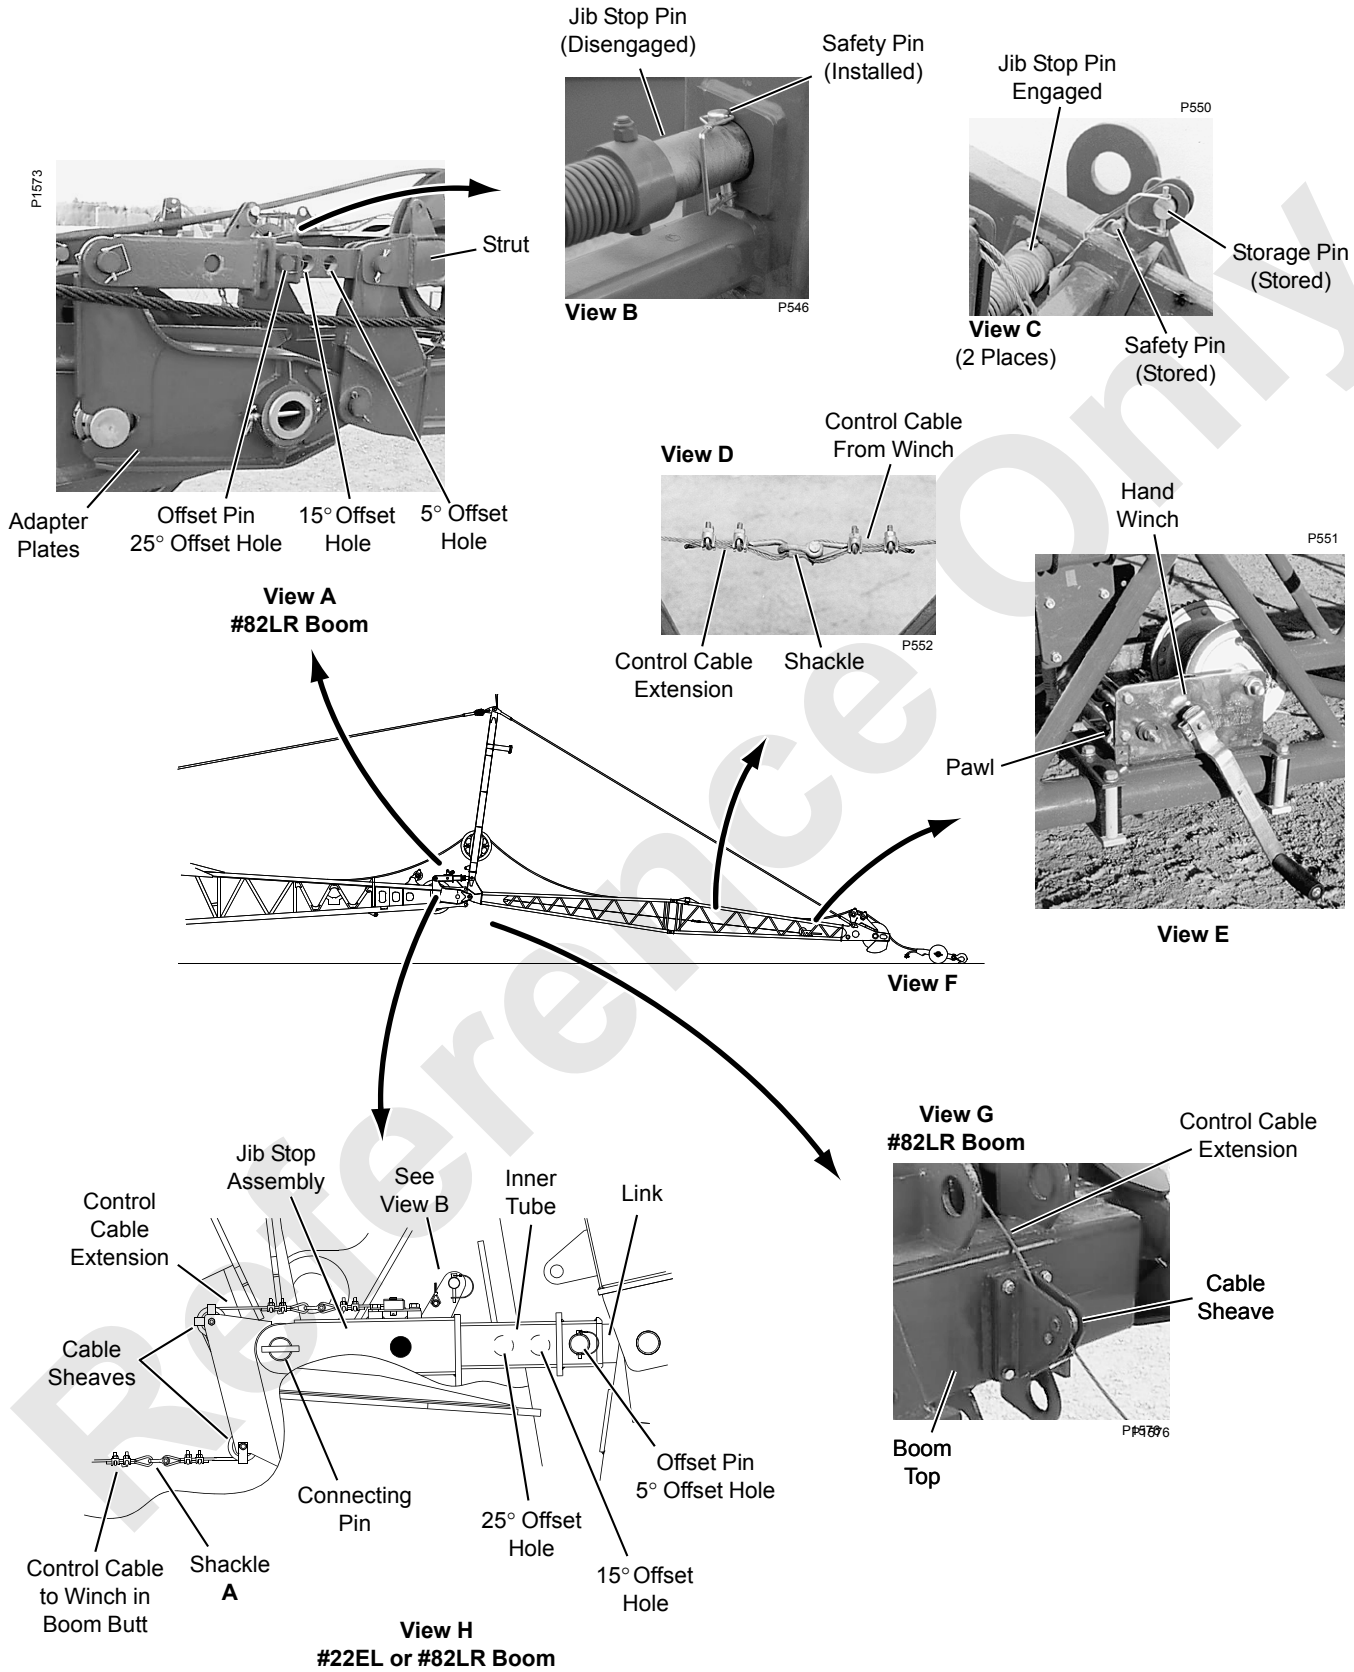

FIGURE 4-41
See Figure 4-41 for the following procedure.
3. Install safety pins (Figure 4-41, View B).